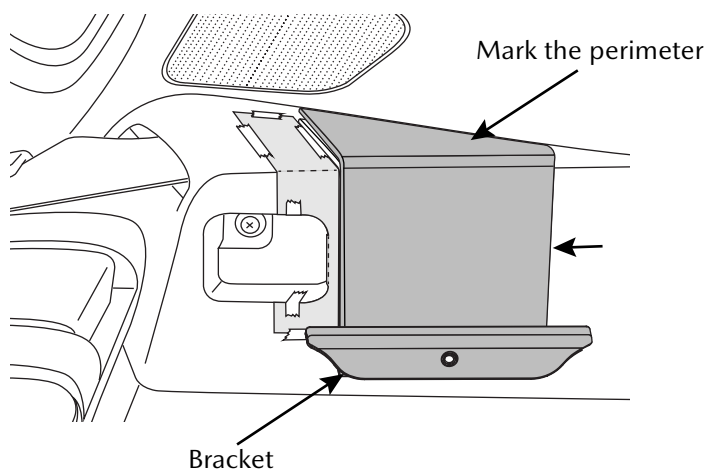

Figure 3
- A. Trial fit the side bracket and align with the template. Mark the bracket perimeter with non marking pen (Figure 3).